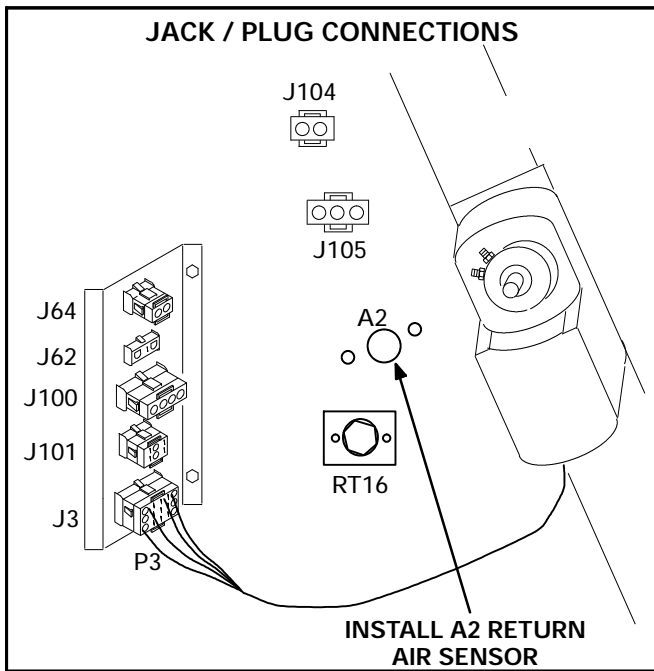

FIGURE 13
- 2- Insert return air sensor probe into hole (location shown in figure 13). Secure with screws provided.